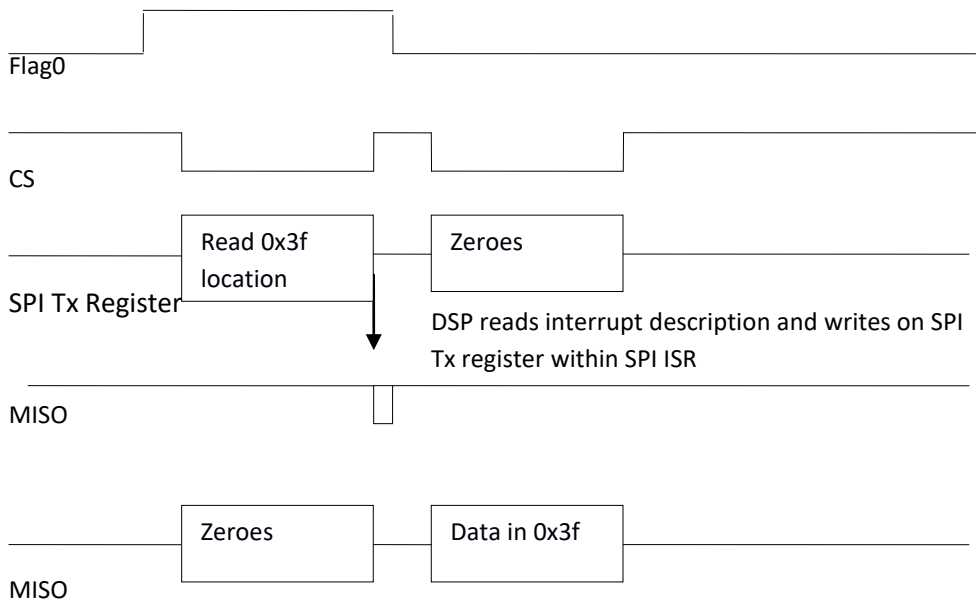

Figure 2: Timing of Flag 0 with Respect to Interrupt Description Read
- Figure 2: Timing of Flag 0 with Respect to Interrupt Description Read (Not to scale) shows the timing of Flag0 going HIGH and LOW with respect to the interrupt description read